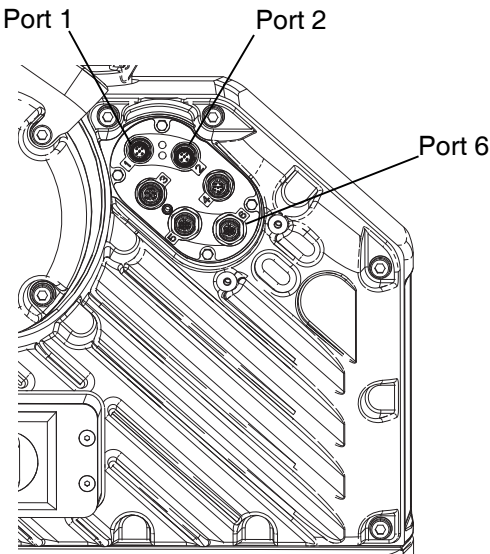

FIG. 23: Driver Port Locations
6. Using the four 10-32 mounting screws included with the kit, mount the base (S) in the holes you drilled.
7. Reattach the CGM (R) on the base (S) with the two screws (T) that were removed in step 5.
8. Reattach the access cover (U).
9. Connect the CAN cable included in the kit to either port 1 or port 2 (whichever is available) on the driver. See **Figure 23**.